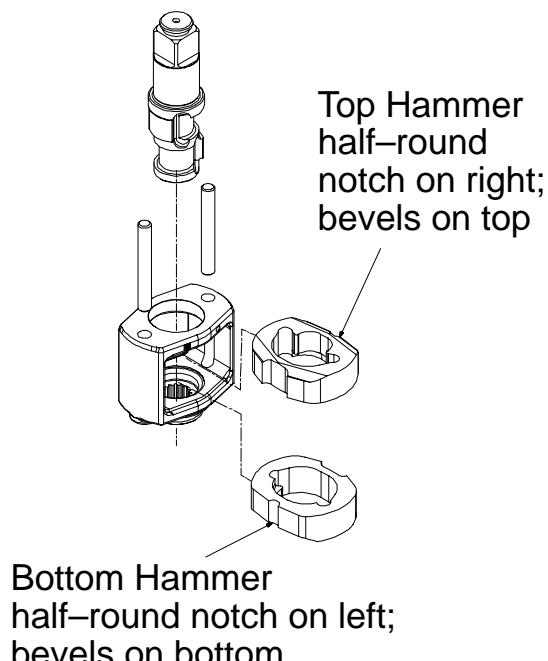

Figure 17
3. Replace the Hammers in the Hammer Frame (13) exactly as they were when you marked them prior to disassembly.
4. Replace the Hammer Pins (14).
5. Examine the base of the Anvil (9) and note its contour. While looking down through the Hammer Frame, swing the top Hammer to its full extreme one way or another until you can match the contour of the Anvil. Insert the Anvil into the Hammer Frame and through the first Hammer. Swing the bottom Hammer in the opposite direction from the top Hammer and maneuver the Anvil slightly until it drops into the bottom Hammer. See Figure 17.
NOTICE: Be sure to position the Top Hammer with the half-round notch on the right and the bevels on the top, and the Bottom Hammer with the half-round notch on the left and the bevels on the bottom, as shown in Figure 17.